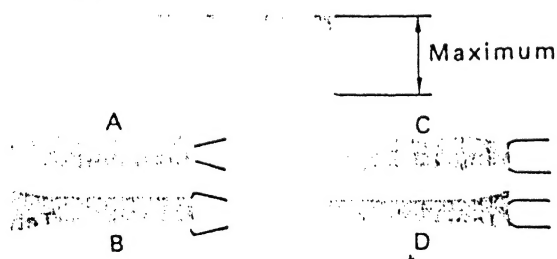
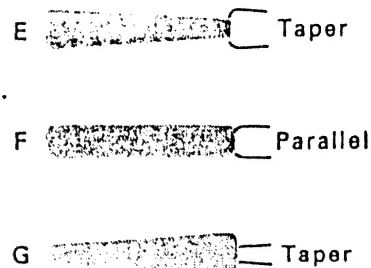

Fig.22 Minimum FM output (incorrect examples)
Fig.23 Minimum FM output (correct examples)
- b) If there are waveforms as shown by A or B in Fig.22, carefully adjust the supply guide roller height so that the waveform appears as shown by E, F, or G in Fig.23. At this time, if the waveform fluctuates, adjust to the point of minimum fluctuation.
- c) If the FM waveform appears as shown by C or D in Fig.22, carefully adjust the take-up guide roller height to obtain a waveform such as shown by E, F, or G in Fig.23.
Perform fine adjustment of supply and take-up guide rollers so that waveform variation appears as shown by E, F, or G of Fig.23.